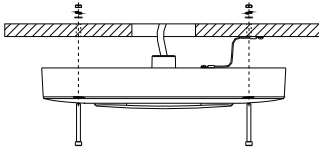

Figure 3
3. Fix another side of safety rope on the ceiling, then connect the wire of fixture to main supply according to local electrical connection mode, make sure good protection on the wire joint, after that, fix the fixture on the ceiling with accessory screws (Figure 3).